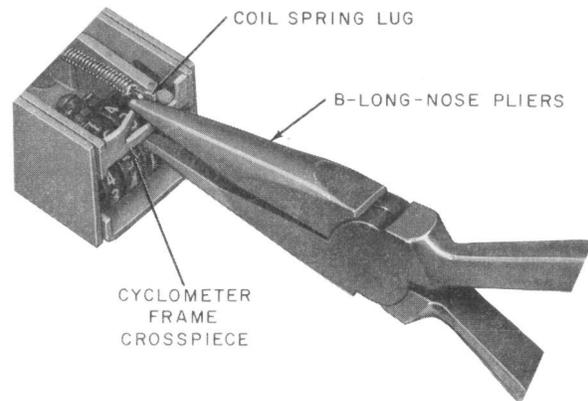

Fig. 14—Method of Adjusting Coil Spring Lug Downward on 14-Type Register
(1) If the coil spring touches the 132Y gauge and this is due to a defective spring, replace the spring. If the spring seems satisfactory, adjust the coil spring lug slightly downward as required.
(2) To adjust the lug downward, place the B long-nose pliers over the lug and the lower side of the cyclometer frame crosspiece, as shown in Fig. 14, and compress the pliers.